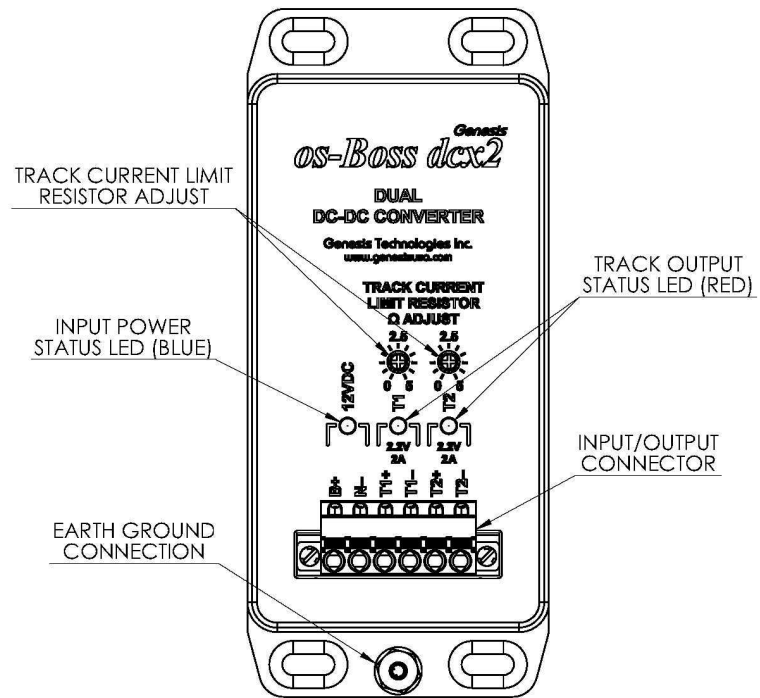

Figure 1 - os-Boss dcx2 Enclosure Front
3. If the os-Boss dcx2 is wall mounted on an ungrounded non-conductive surface, an AWG #14 wire or larger must be connected to the screw-terminal (see Figure 1) using a crimp type wire lug and routed directly to a nearby earth ground buss. This wire should not exceed 48 inches in length.